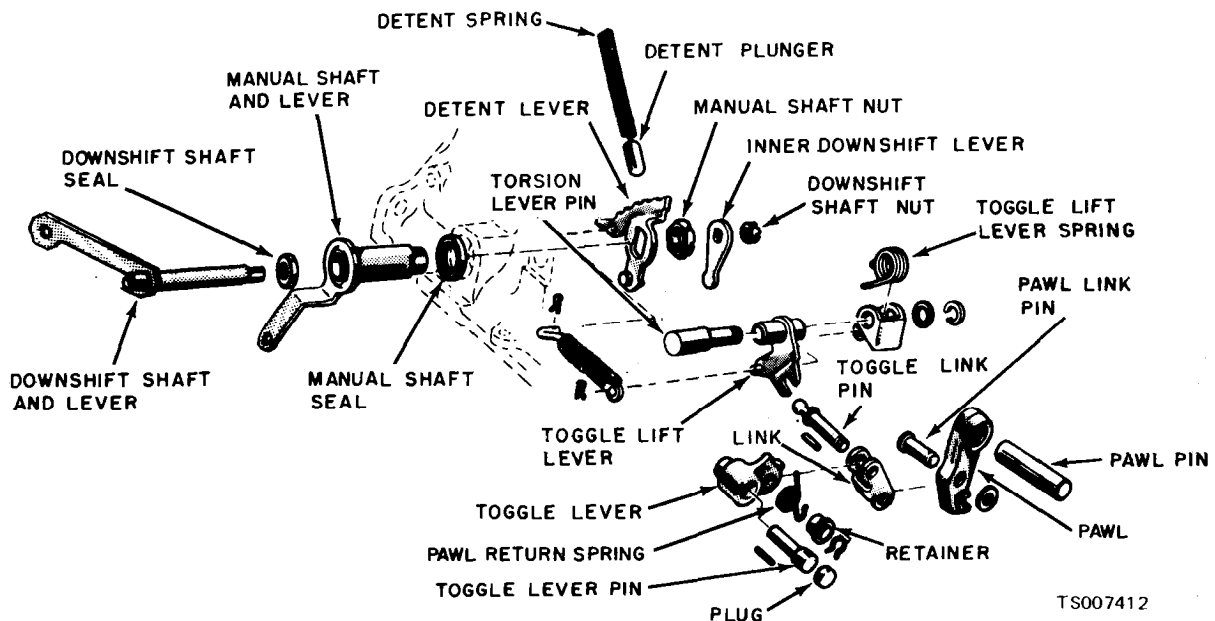

Figure 7-24. Manual Linkage.
(1) Remove the inner downshift lever shaft nut (fig. 7-24). Then remove the inner downshift lever.